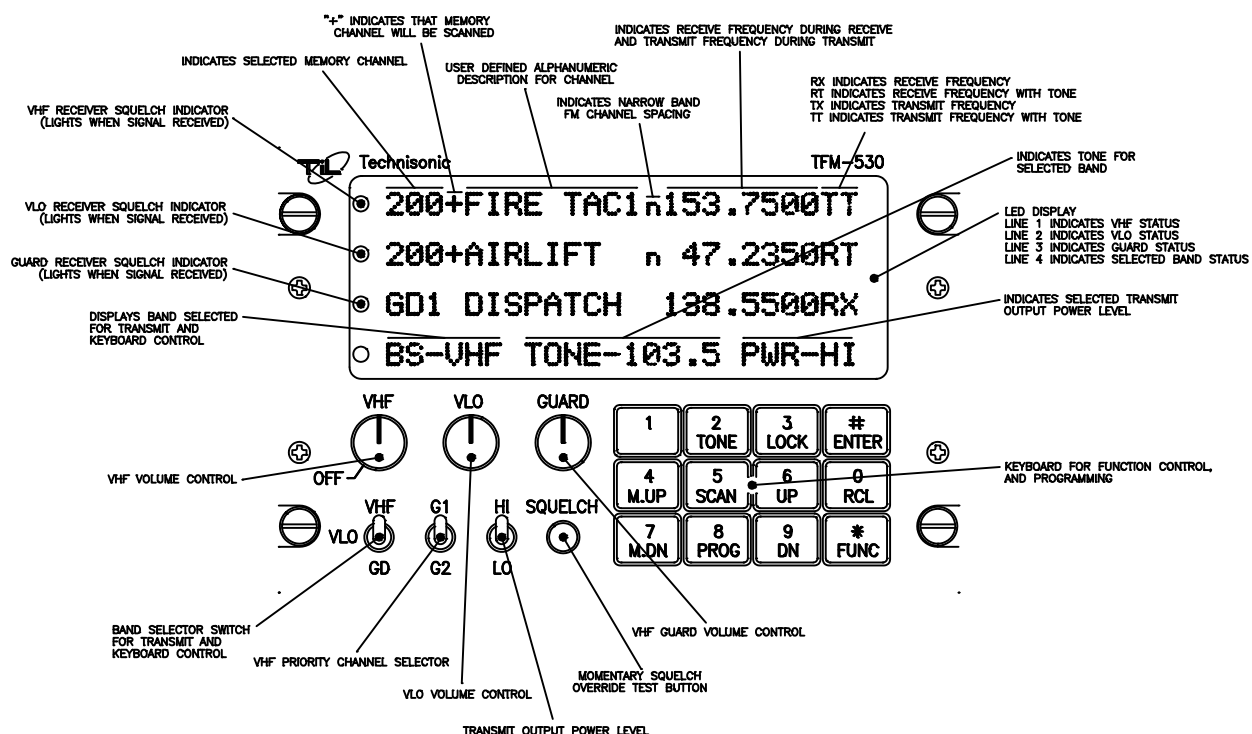

FIGURE 2.1 Operator's Switches and Controls
2.2 OPERATING INSTRUCTIONS (See Figure 2.1)